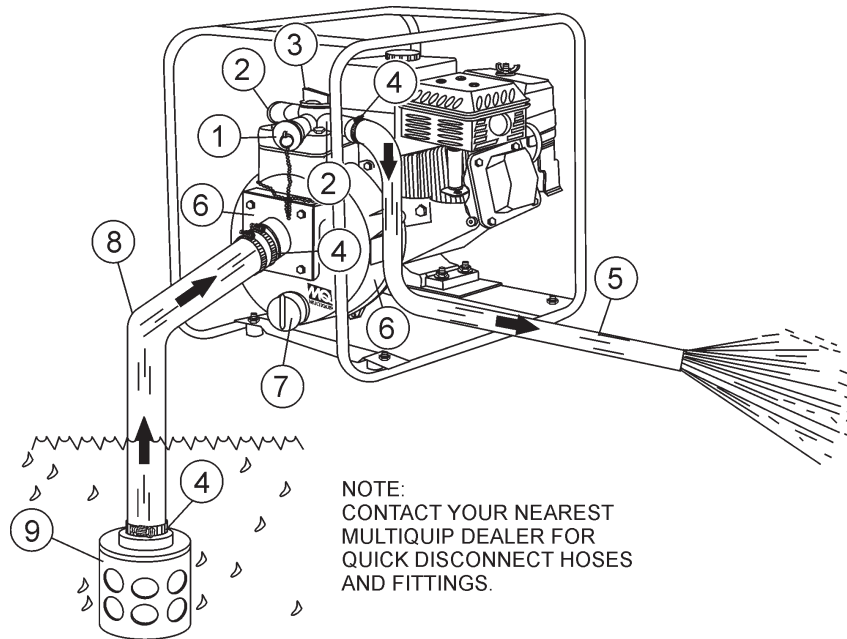

Figure 3. QP305SLT/QPT305SLT Pump Application
Figure 3 shows a typical application using the QP305SLT/QPT305SLT centrifugal pump. Please note that this pump is intended for the removal of clean water.
2. To prime pump, remove fill cap (See Figure 3) and fill pump casing with water. If the pump casing is not filled with water before starting, it will not begin pumping.
3. Attach suction and discharge hoses to the pump. Check that all hoses are **securely** attached to the pump. Make certain suction hose (See Figure 3) does not have any air leakage. Tighten hose clamps and couplings as required.
6. Check that the **discharge** hose (See Figure 3) is not restricted. Place hose so that it lays as straight as it is possible on the ground. Remove any twists or sharp bends from hose which may block the flow of water.
8. Make sure the **suction strainer** (See Figure 3) is clean and securely attached to the water end of the suction hose. The strainer is designed to protect the pump by preventing large objects from being pulled in to the pump.